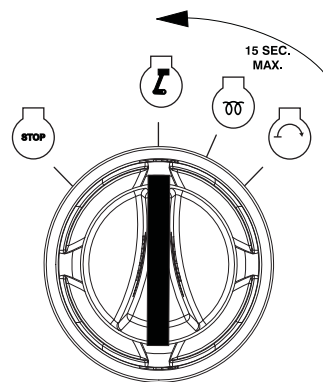

Figure 3-9. Release Key
4. See **Figure 3-9**. Release the key, it will move to the RUN position.